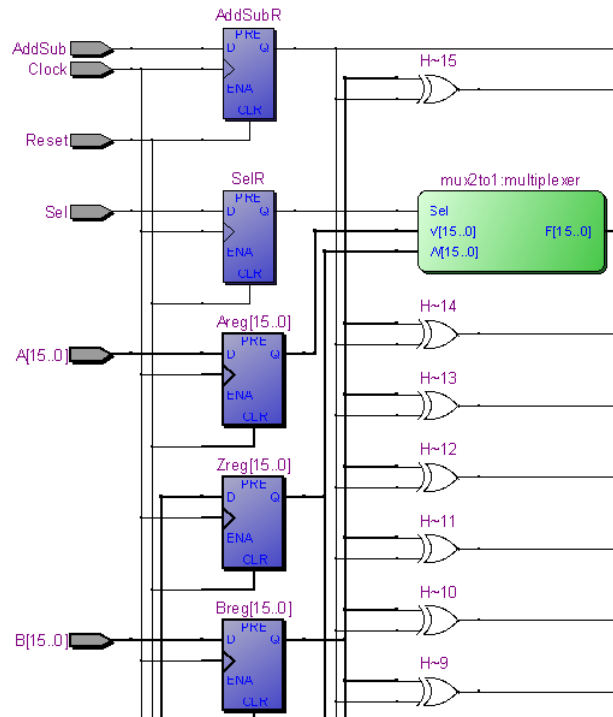

Figure 29: An enlarged view of the circuit.
2. Use the Zoom Tool, located in the toolbar, to enlarge the image and view the upper-left portion of the circuit, as illustrated in Figure 29. Note that individual flip-flops are used for the *AddSub* and *Sel* signals. Sixteen-bit vectors *A* and *B* are denoted by heavy lines connected to the registers, *Areg* and *Breg*, which are indicated as heavily outlined flip-flop symbols. The *Zreg* register is drawn in the same manner as *Areg* and *Breg*.